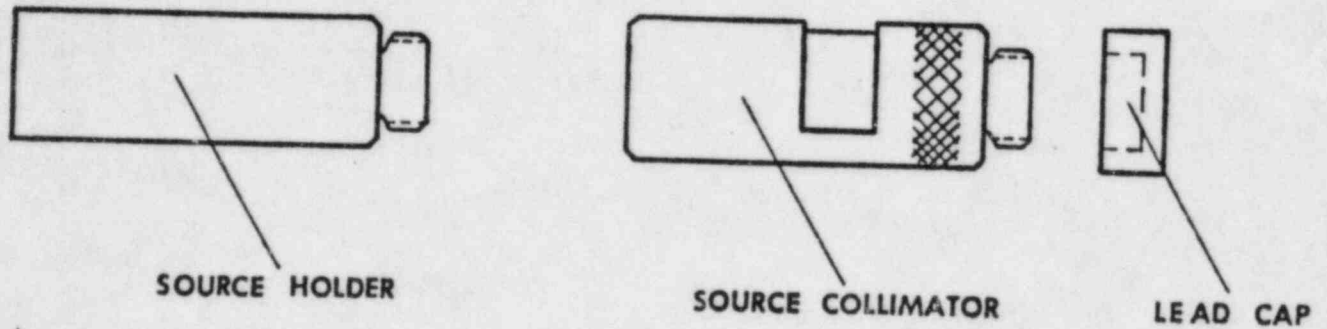

FIGURE 12
5. Turn the chuck ring (FIG 12) counterclockwise until the collimator is loose in the chuck. Do not completely loosen the chuck ring.
4. Slide the source collimator-holder into the source chuck (Fig. 12) so that the pin on the bottom fits into the notch on the source chuck. The collimator shoulder should rest on the top of the chuck (not the chuck ring).
6. Verify that the shutter can swing into the notch on the collimator (Fig. 12).